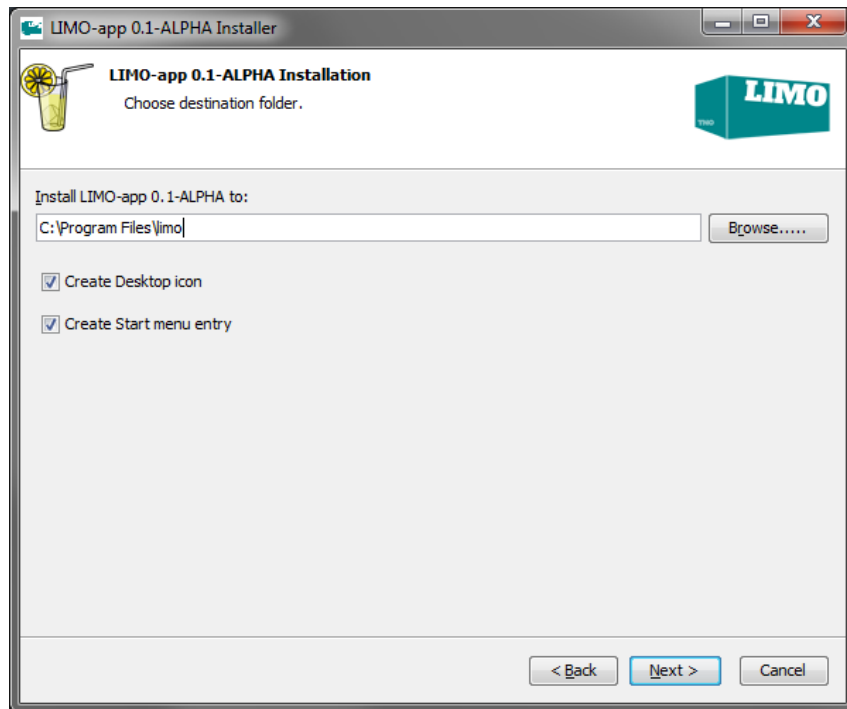

Figure 2: Installation Wizard step 2. Define where the application installation components should be stored.
- Click Next to select the location where LIMO should be installed. It is recommended to accept the default location. See Figure 2